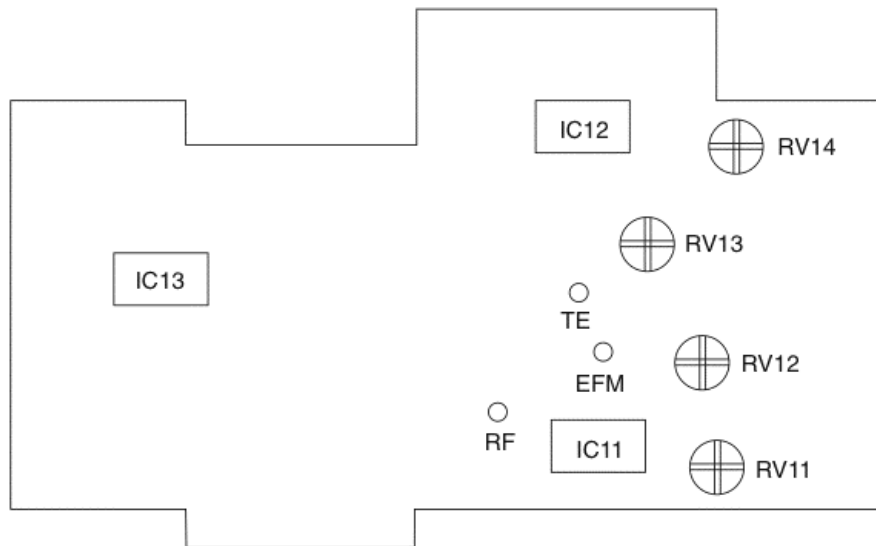

FIGURE 31-24 Adjust RV14 for focus gain adjustment in an auto CD changer.
1. Set RV14 (servo board) to the standard position (Fig. 31-24).